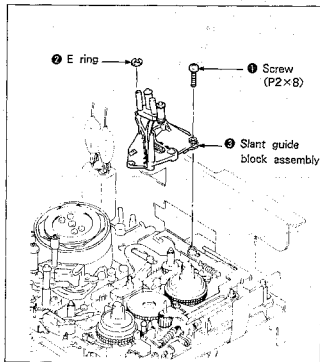

Fig. 7-26.
Removal (See Fig. 7-26.)
- > Insert the E ring ② and tighten with screw ①. (See Fig. 7-26.)